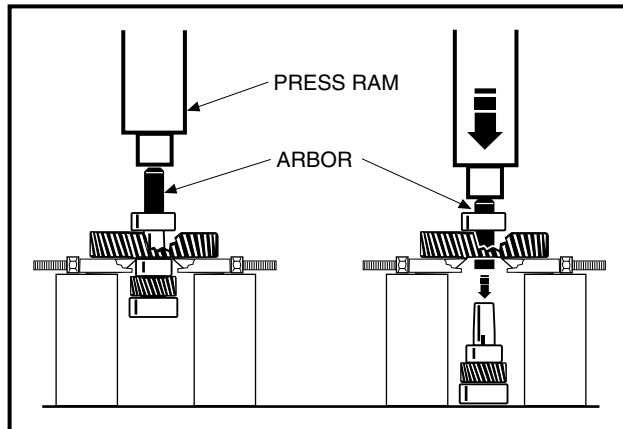

Figure 16a-13 Intermediate Gear Assembly
6. To disassemble the intermediate gear assembly, press off together the bearing (16) and the gear (19) (**Figure 16a-5, Page 16a-3**). See also **Figure 16a-13, Page 16a-8**.
7. Press the bearing (18) off the intermediate gear assembly (**Figure 16a-5, Page 16a-3**).